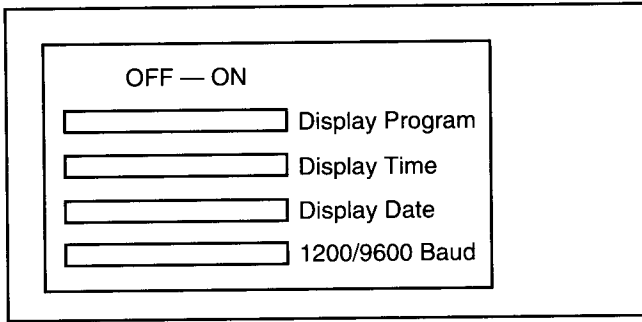

Figure 3.4 — DIP Switch
**DIP Switch Settings** — The DIP switches located and accessed from the rear-right portion of the chassis must be properly set according to application requirements. Obtain the installation record sheet produced specifically for the application. A blank record sheet is shown in Table 3.A. The DIP switch contains four two-position switches which are set in combination (Figure 3.4). The switches are turned ON or OFF by sliding the switch. As you face the DIP switches, slide: